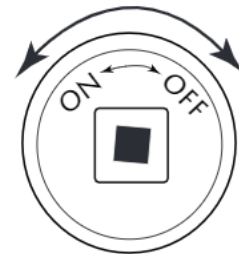

Fig. 11. Key Valve Face
1. Insert key into shut-off valve and secure into square end (see Figs 11 & 12).